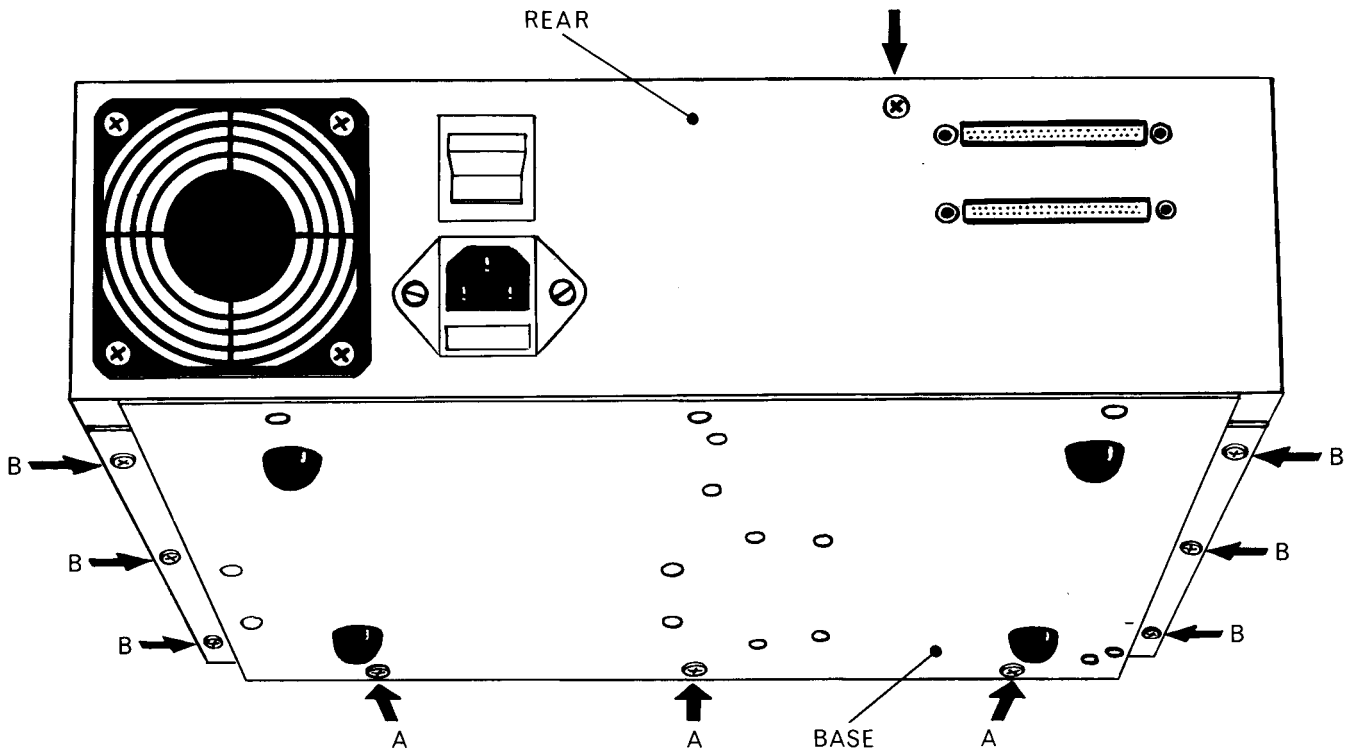

Figure 1 Screws to remove
ii) To service the Host Adapter PCB, remove the three small phillips screws labelled A in figure 1, underneath the front of the unit which hold on the front panel.
iv) Undo the six small phillips screws labelled B in figure 1, which connect the bottom panel to the top panel.
v) Remove the single small phillips screw labelled C in figure 1, from the rear panel (middle top near the ribbon cable).